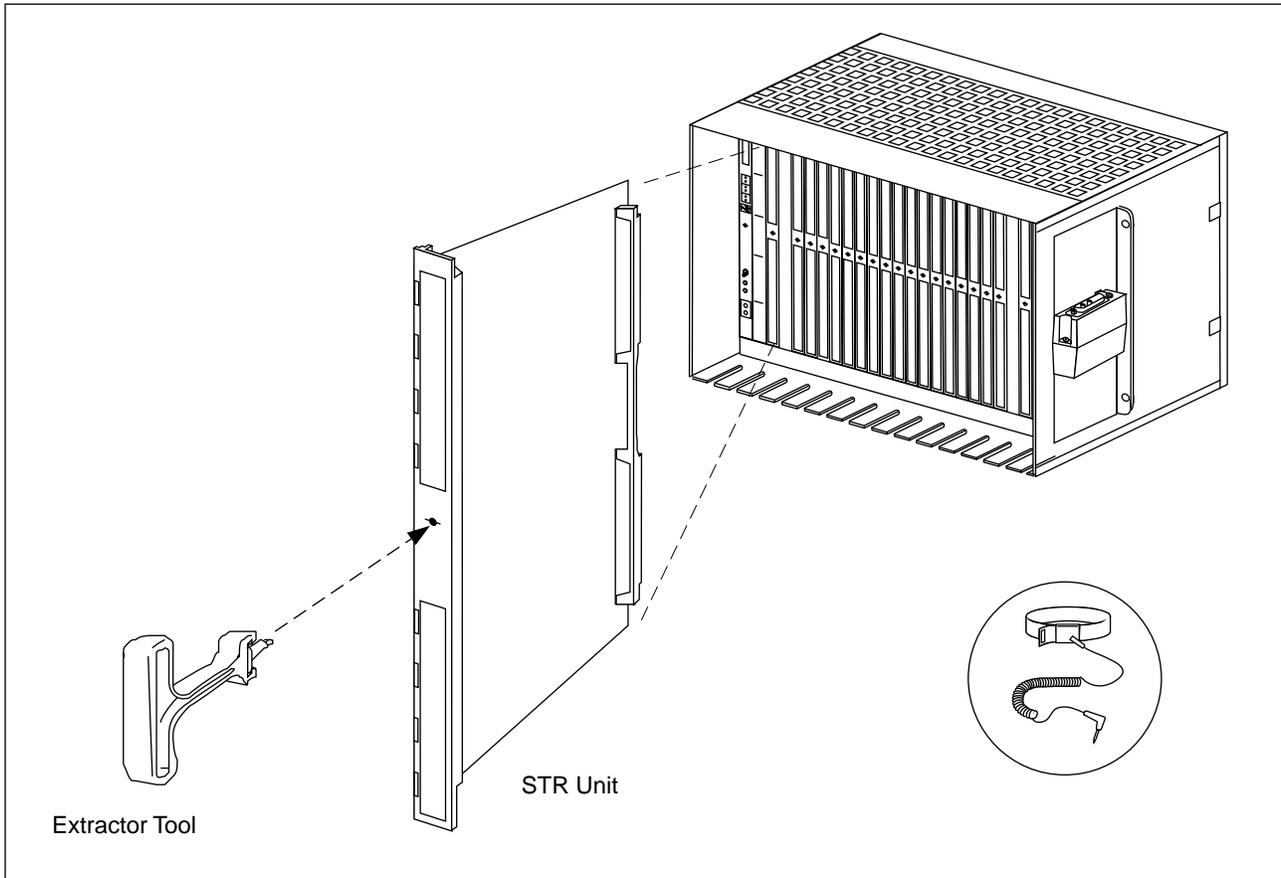

Figure 6-8. STR Unit Removal
5. At the top of the CRI magazine, carefully press the plastic retaining catch upwards and use the extractor tool to remove the STR unit from the CRI magazine (Figure 6-8 on page 6-28).